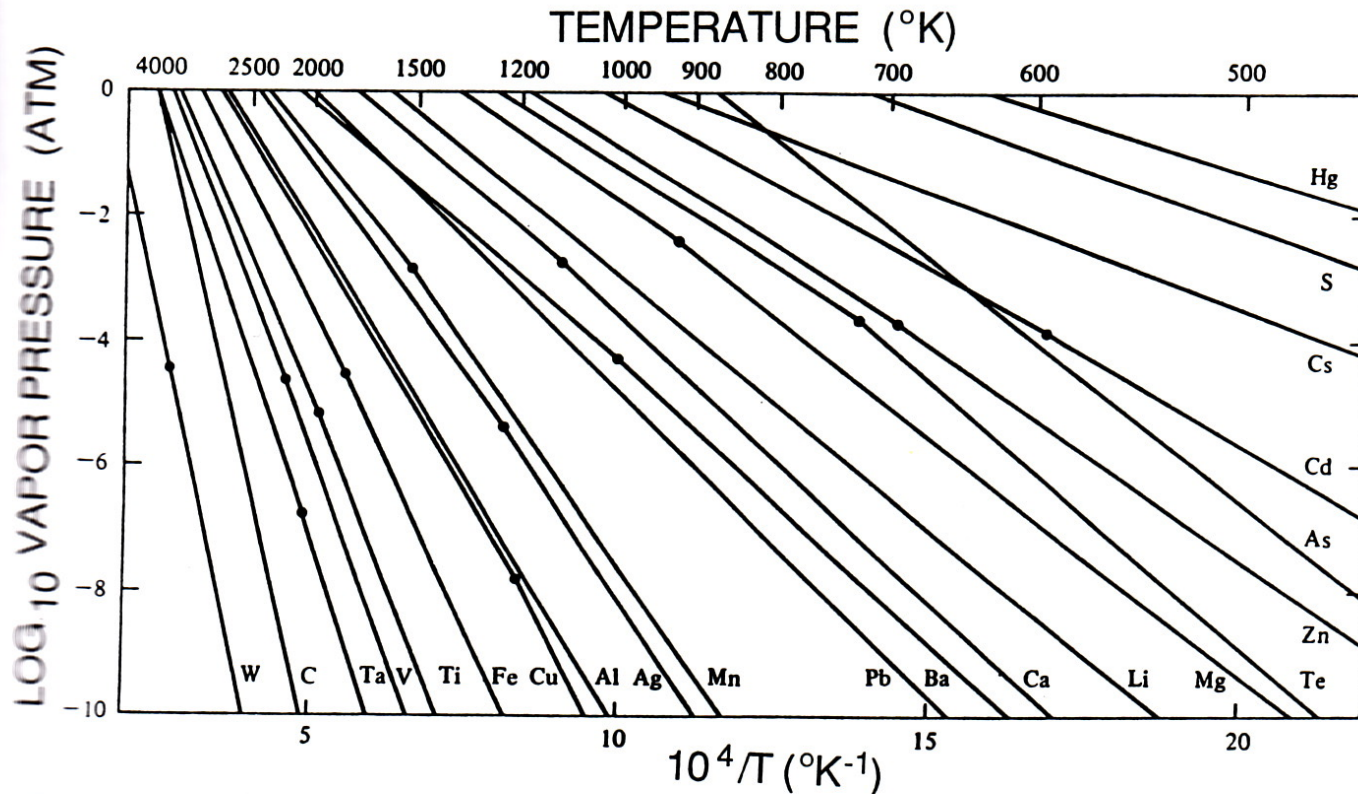

Figure 3-1. Vapor pressures of selected elements. Dots correspond to melting points. (From Ref. 7).
- From Fig 3-1 $\frac{P_{\text{Al}}(0)}{P_{\text{Cu}}(0)} = \frac{10^{-3}}{2 \times 10^{-4}}$